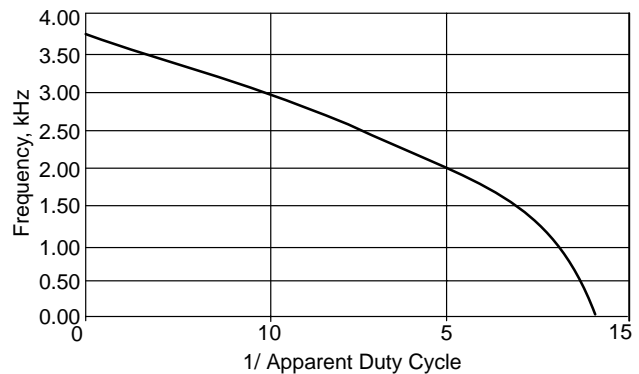

Figure 16. Normalized Input Filter Capacitor Ripple Current
- Calculate Input Filter Capacitor Ripple Current. Use the chart in Figure 16 to calculate the normalized ripple current (K_{RMS}) based on the reciprocal of Apparent Duty Cycle. Then multiply the input current by K_{RMS} to obtain the Input Filter Capacitor Ripple Current.